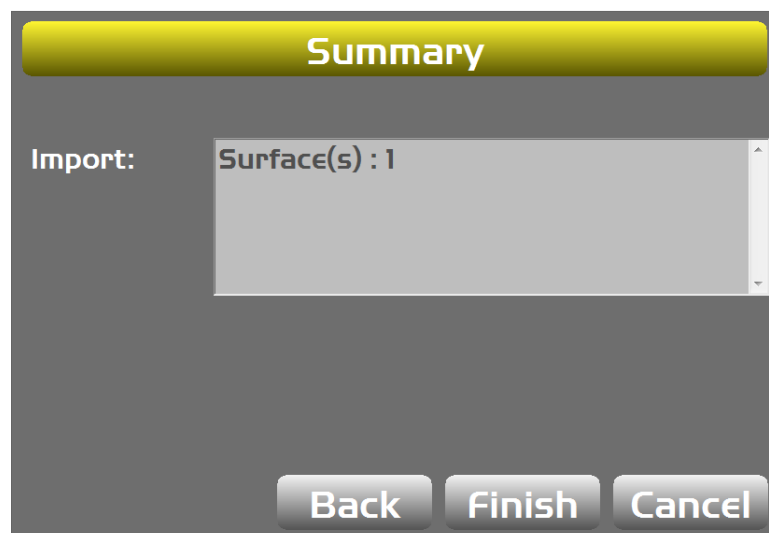

Figure 31: Import Surface(s) Summary Screen
8. Select the file to import, and tap **Next**. The **Summary** screen appears (Figure 31).